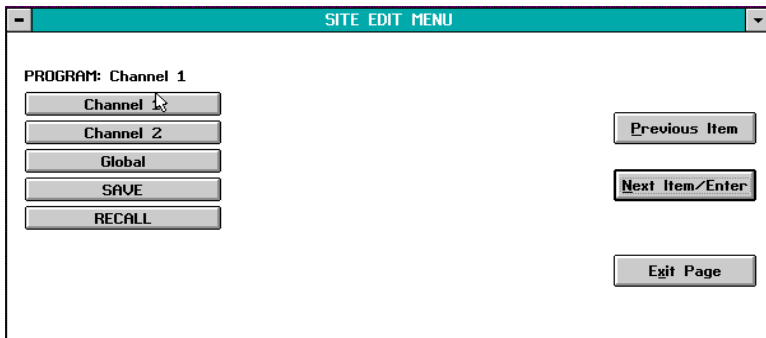

Figure 6-5: Site Edit Selection
1. Select the desired command (**ALT+E**, ↓ and **ENTER**). A window similar to the one shown in Figure 6-5 on page 6-7 appears. (This screen represents the **Site Edit Menu** command for a Two-Channel GM868).